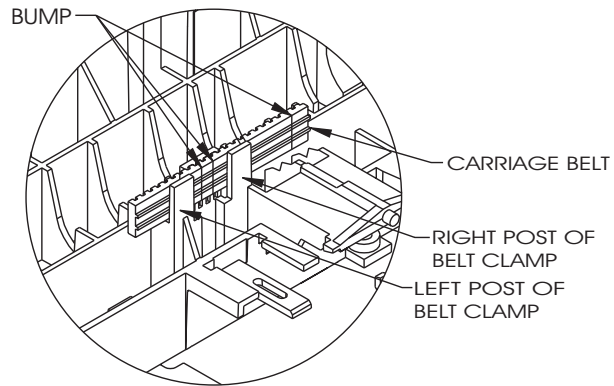

Figure 5-12. Carriage Belt Clamp.
10. Once the Carriage Assembly is removed from the Slide Shaft, turn it over so that you can see the Belt Clamp. See Figure 5-12.
1. To install the Belt onto the Carriage Assembly, the “bumps” on the belt (where the ends of the belt are joined together to make the belt continuous) must be positioned between the left and right posts of the Belt Clamp. See Figure 5-12.
3. Check the position of the Carriage Belt to make sure it matches Figure 5-12.